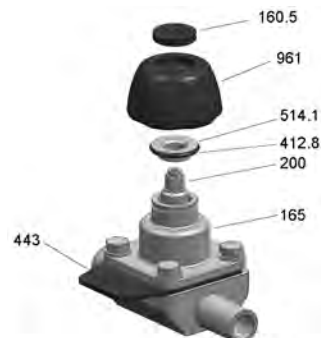

Fig. 7: SISTO-C HV Setting the closed-position travel stop
6. Insert cover 160.5 into handwheel 961. This secures stem 200 (⇒ Fig. 7) .